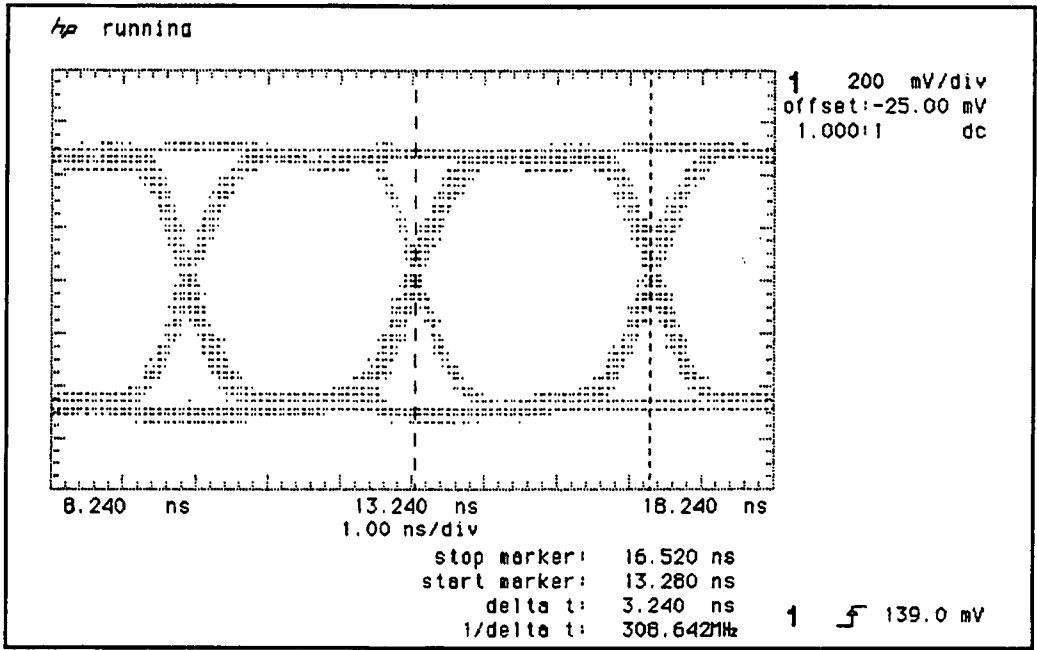

Figure 3-40. STM-1 Eye Diagram Pattern
13. Adjust the Oscilloscope controls to display the eye diagram as shown in Figure 3-40, STM-1 Eye Diagram Example. Check that the waveform meets the STM-1 eye diagram mask. It may be necessary to adjust the V/div gain on the Oscilloscope.